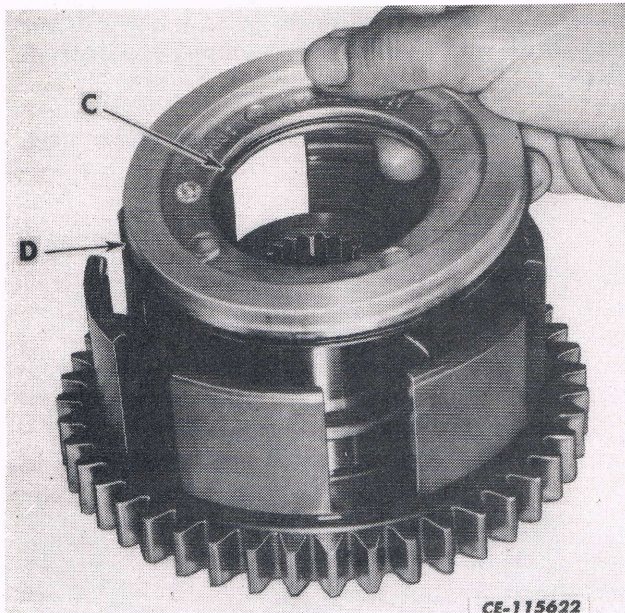

Fig. 13
1. Install the ID (C) and OD (D) sealing rings onto the clutch piston (11), using petroleum jelly. See Fig. 13.